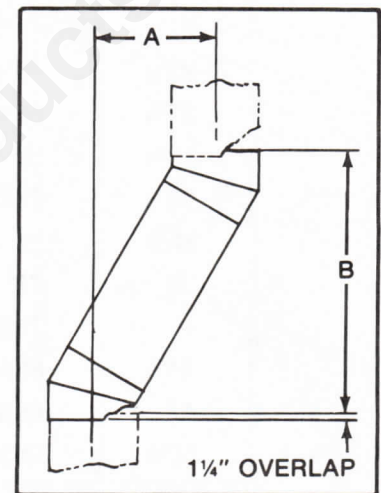

Figure 10
To clear any overhead obstructions, the chimney may be offset using a 30° Offset/Return, Catalog Number SL330. Figure 10 and Table 1 enable selection of the appropriate chimney components when using Offsets and Returns. For Offset/Return installations, Figure 9B illustrates the minimum height from the bottom of the fireplace to the top of the first Chimney Section, SL412. An arrangement, using either an SL412, SL418, SL436 or SL448 as the first Chimney Section, is required when Offsets/Returns are used anywhere in the system.
1. Determine amount of offset required to extend the chimney through a wall or around an obstacle. See Figure 10, dimension "A".